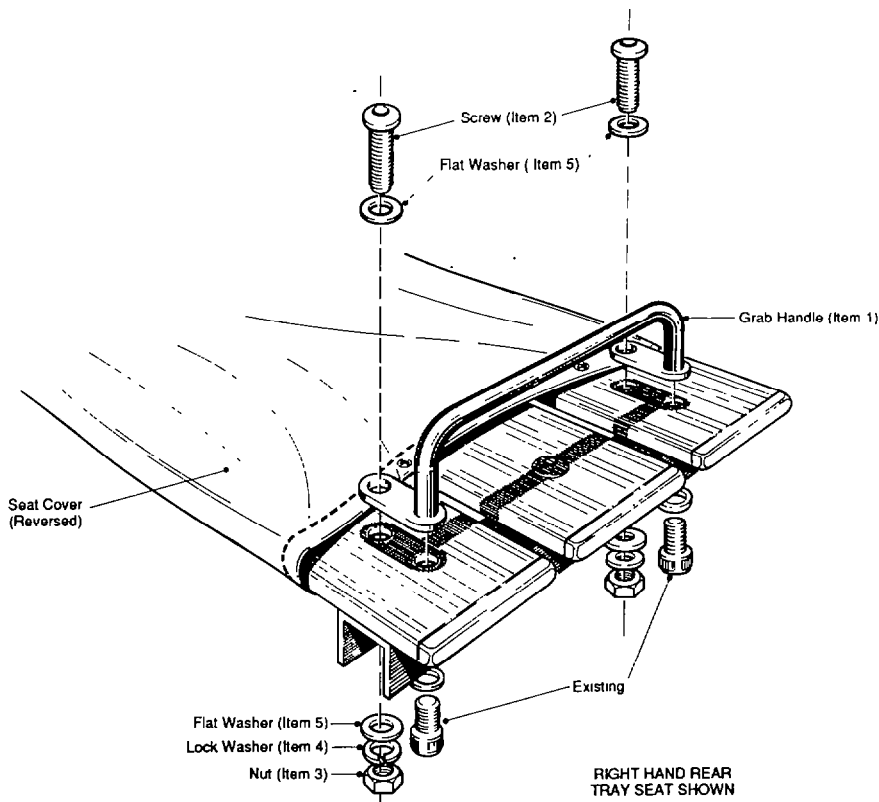

FIG 1 - REAR TRAY SET GRAB HANDLE FITMENT
1. All item numbers in para 7 and Figures 1 to 3 refer to the parts listed in Table 2.
- c. Fit the rear tray seat grab handle (item 1) using the existing mounting screws, as shown in Fig 1, and refit the tray seat support leg cotter pins.
- d. Drill an 8mm diameter hole through the seat plank, using the tray seat grab handle rear mounting lug as a guide, and fit the screws, nuts and washers (items 2, 3, 4 and 5) as shown in Fig 1.